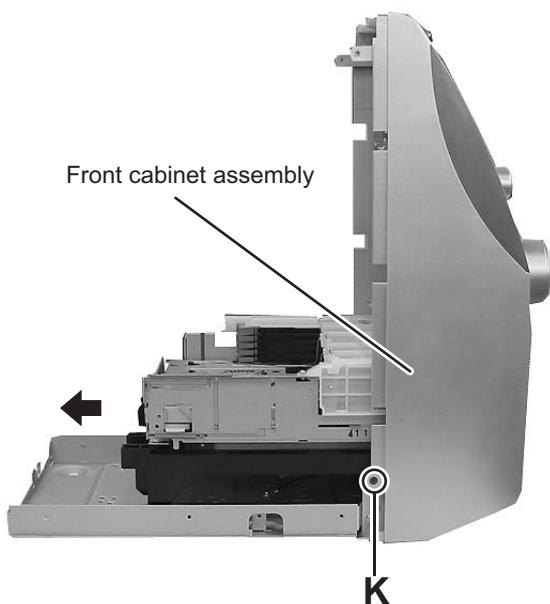

Fig.10
- (3) From the both side of the main body, remove the two screws **K** and then remove the 5DVD mechanism assembly from the main body in the direction of the arrow. (See Fig.10)